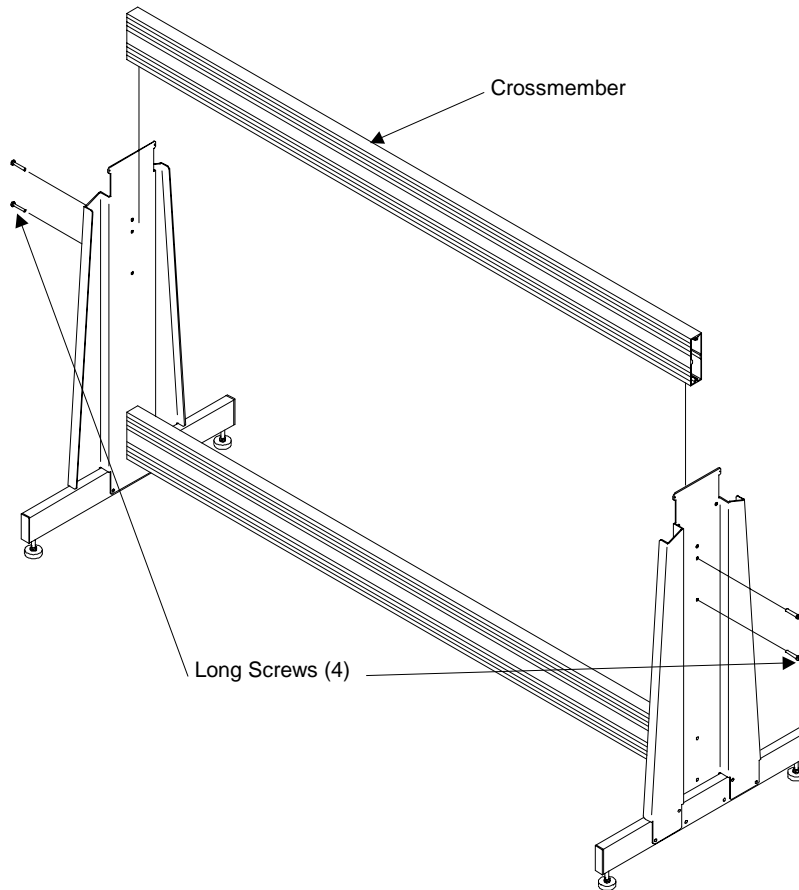

Figure 5. Attaching the Top Crossmember to the Stand Legs
5. Use two of the long screws and the hex wrench to attach each end of the top crossmember to the stand legs. Refer to Figure 5.